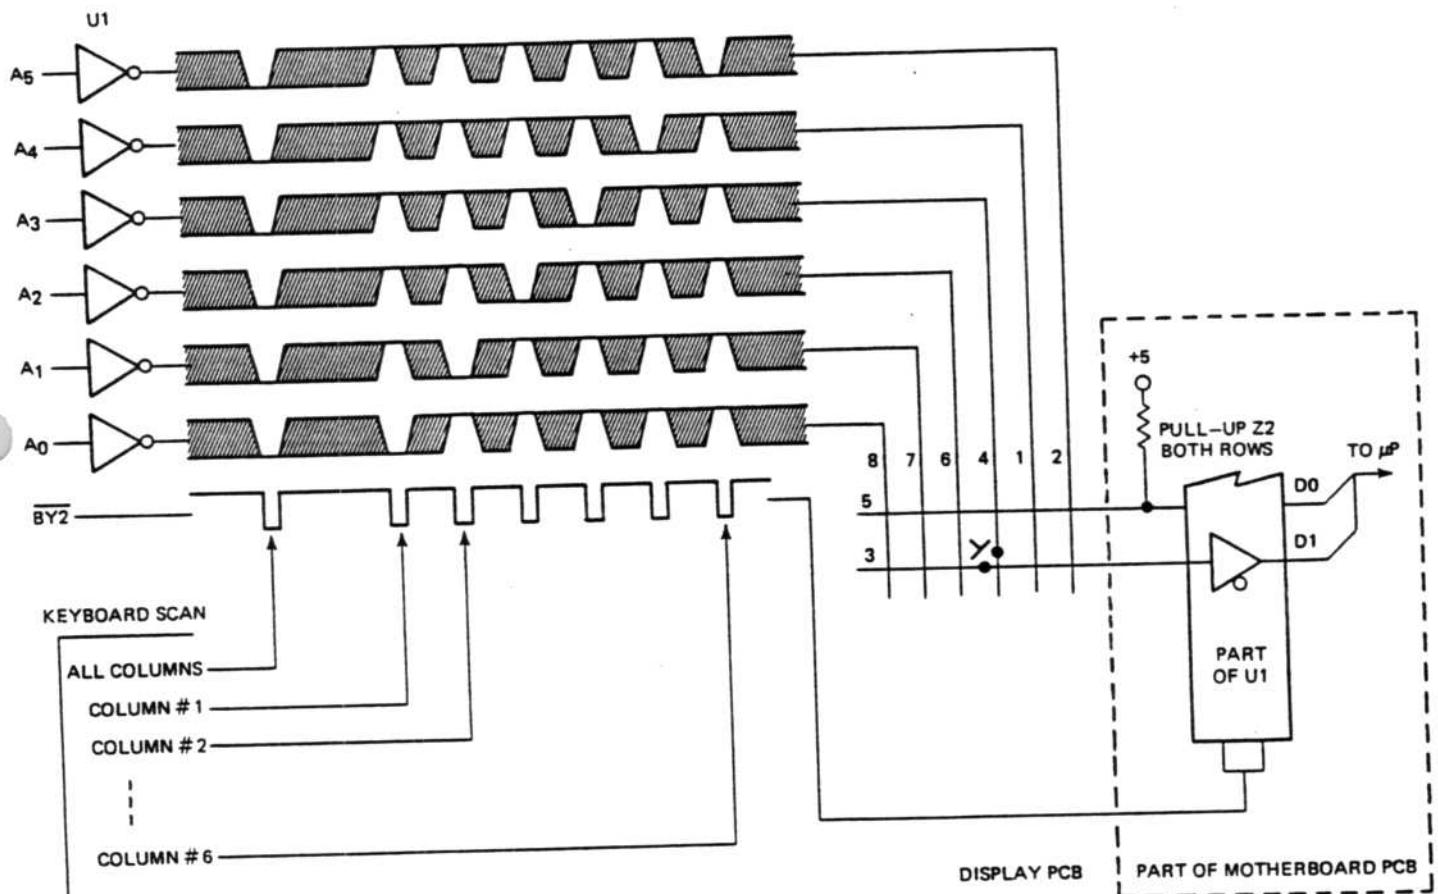

Figure 4.22 - 5001 Keyboard Block Diagram
4.5.6.1 Refer to Figure 4.22 showing the 5001 keyboard block and timing diagrams. Front-panel entries control all functions and software capabilities provided by the 5001. The 5001's keyboard and function switch circuitry consists of the following hardware: